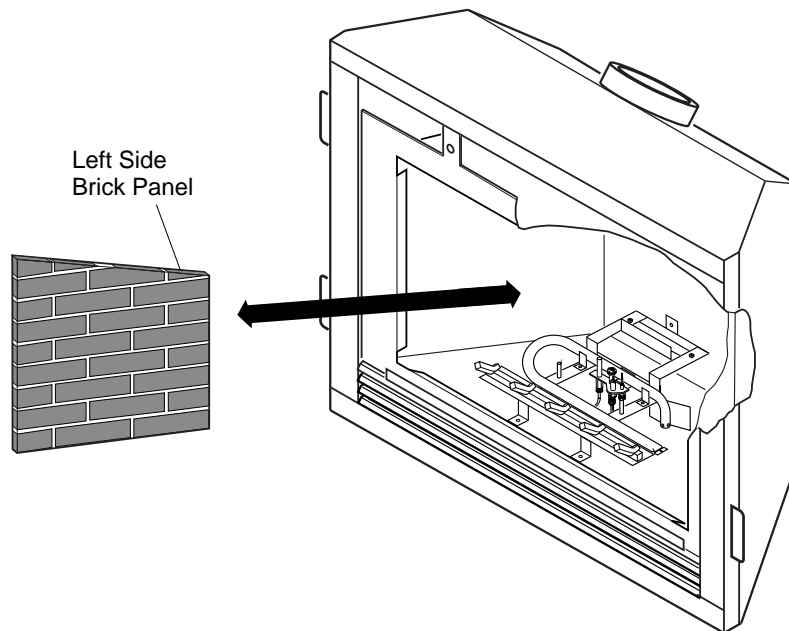

Figure 46 - Installing Left Side Brick Panel
3. Install left side brick panel first by sliding it between the grate and the side of the firebox (see Figure 46).